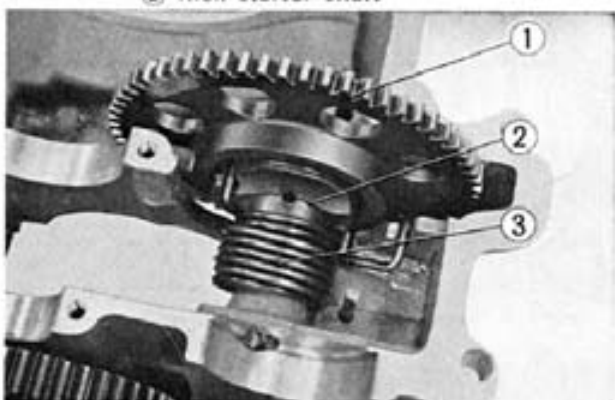

Fig. 3-93 ① Kick starter gear
4. Remove the kick starter gear assembly. (Fig. 3-93)